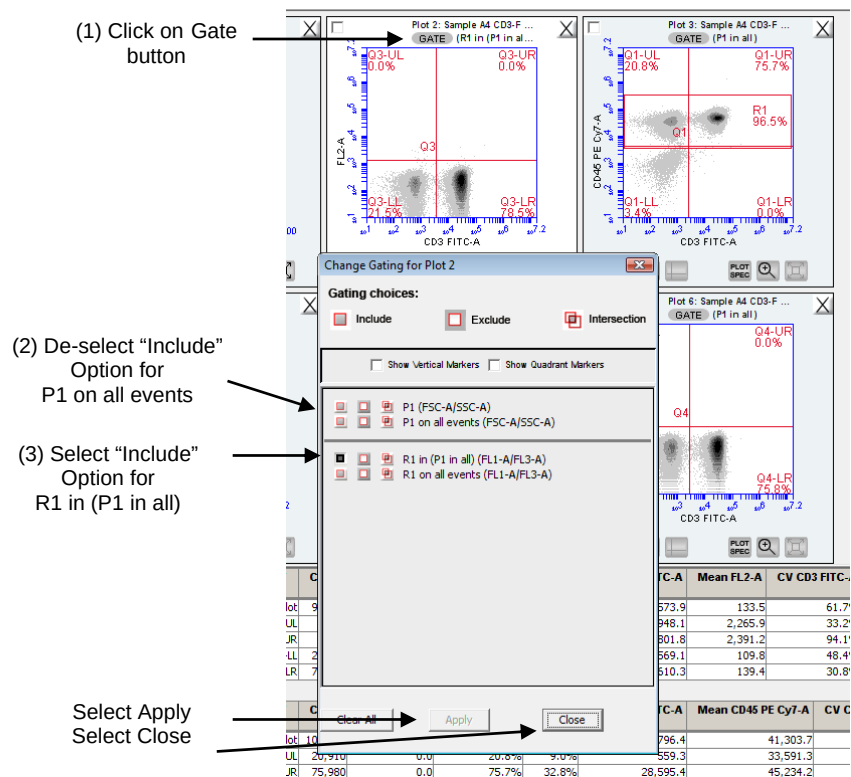

Figure 3-33 Gating Plot 2 (CD3-FITC vs. FL2-A) to include events in gates R1 and P1
2. Click the gray **Gate** button above Plot 2 (CD3-FITC vs. FL2-A) to open the Gate dialog box (Figure 3-33).
3. De-select the “Include” box next to the “P1 on All Events” option and select the “Include” box next to the option “R1 in (P1 in all)” (Figure 3-33).